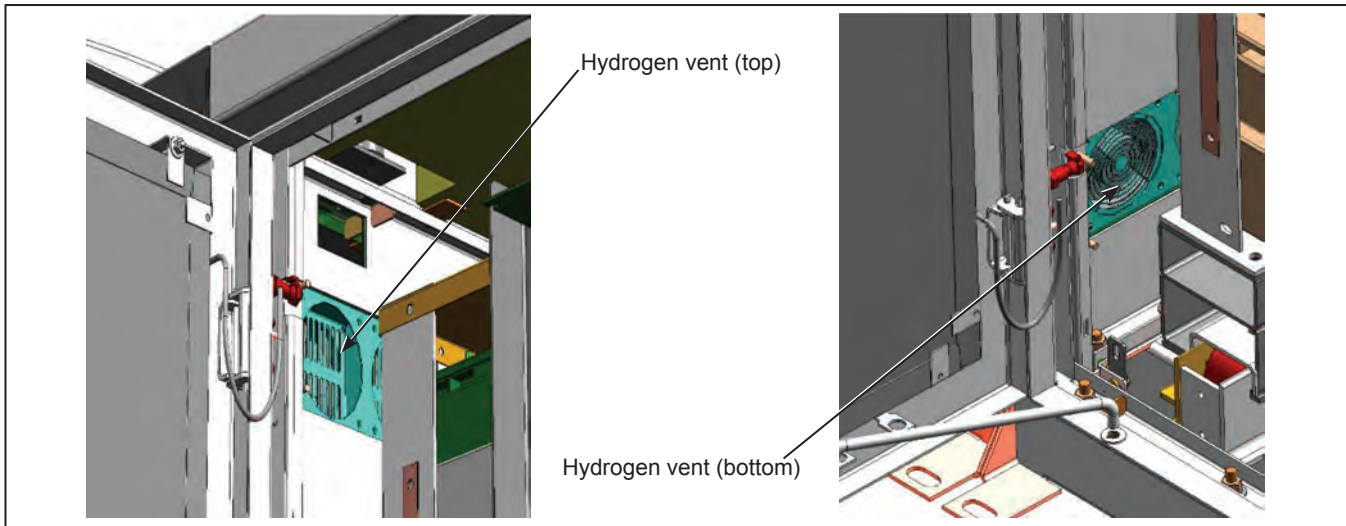

Figure 23. Location of the hydrogen vents in the battery bay.
- ☐ Inspect the top and bottom hydrogen vents located along the inside wall of the bay. Clean any debris or obstructions that can restrict air flow. See Figure 23 for the location of the hydrogen vents.